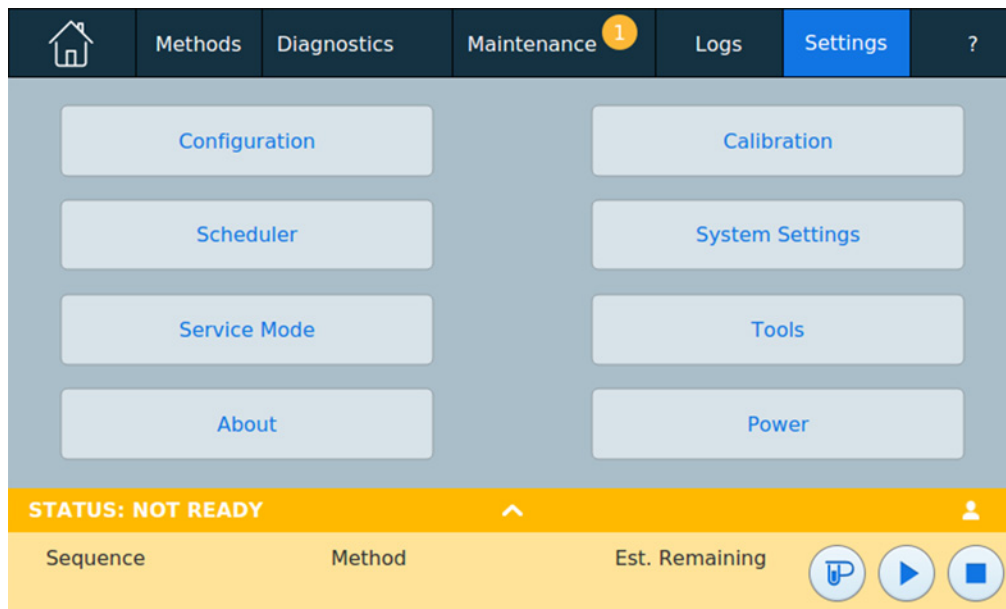

Figure 34 Settings view
Pressing **Settings** on the touch screen control ribbon brings up the Settings view. See Figure 34.
- 1 Press **Settings** on the touch screen control ribbon. The Settings view appears. See Figure 34 on page 96.